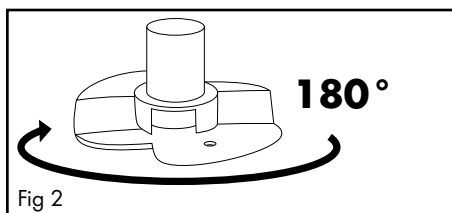
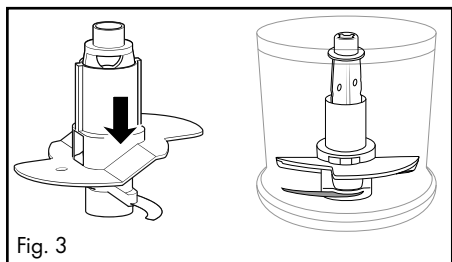

Fig 2
Fig. 3
- For 200 ml of cream, turn the whisk attachment **10** horizontally by 180° (fig. 2), so that it is in contact with only one blade **7** and clicks into place (fig. 3). It then churns higher through the cream.